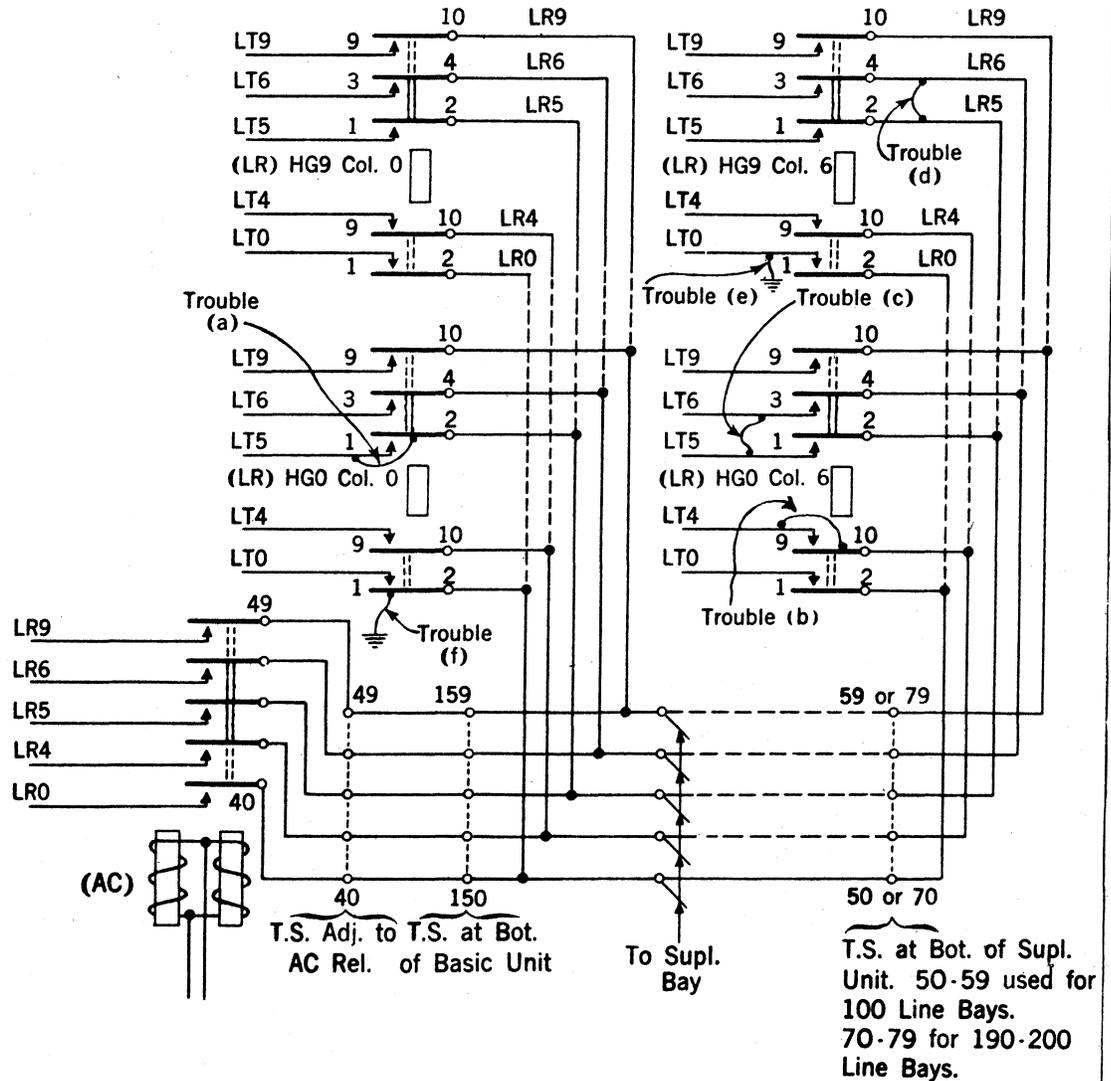

Fig. 1
5.01 Trouble conditions caused by crosses or false grounds on the subscriber line link LR relay contacts affect the controller circuit sequence of operation in various ways depending upon the nature of the particular trouble. To aid in analyzing a particular trouble appearance this section treats trouble conditions due to crosses or false grounds on the LR relay contacts under the six following classifications illustrated in Fig. 1:
This series of readings indicates that the LR5 lead is in trouble and may be due to crossed individual and common contacts on a particular LR relay or a ground on the common LR5 lead. By blocking the LT5 relay non-operated the line link controller may be caused to function as for an AP alarm until the trouble condition is cleared. It may be necessary to disconnect the LR5 lead temporarily at the various locations of its multiple appearance (see Fig. 1) while attempting to isolate the trouble condition. If the trouble condition clears while testing or the LR5 lead is proven clear of ground the condition was probably caused by crossed contacts on an LR relay (in this case top 1 and 2 as shown on Fig. 1). Test the top 1 and 2 contacts on all LR relays to determine if a cross exists.